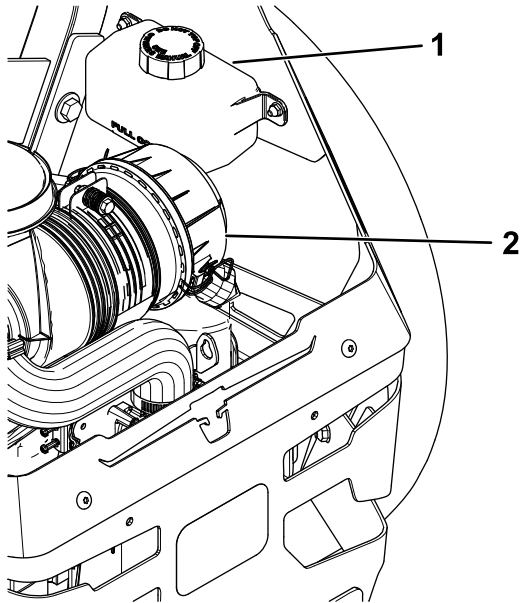

Figure 79
2. Check expansion reservoir and if necessary add Toro® HYPR-OIL™ 500 hydraulic fluid to the FULL COLD line (Figure 79).